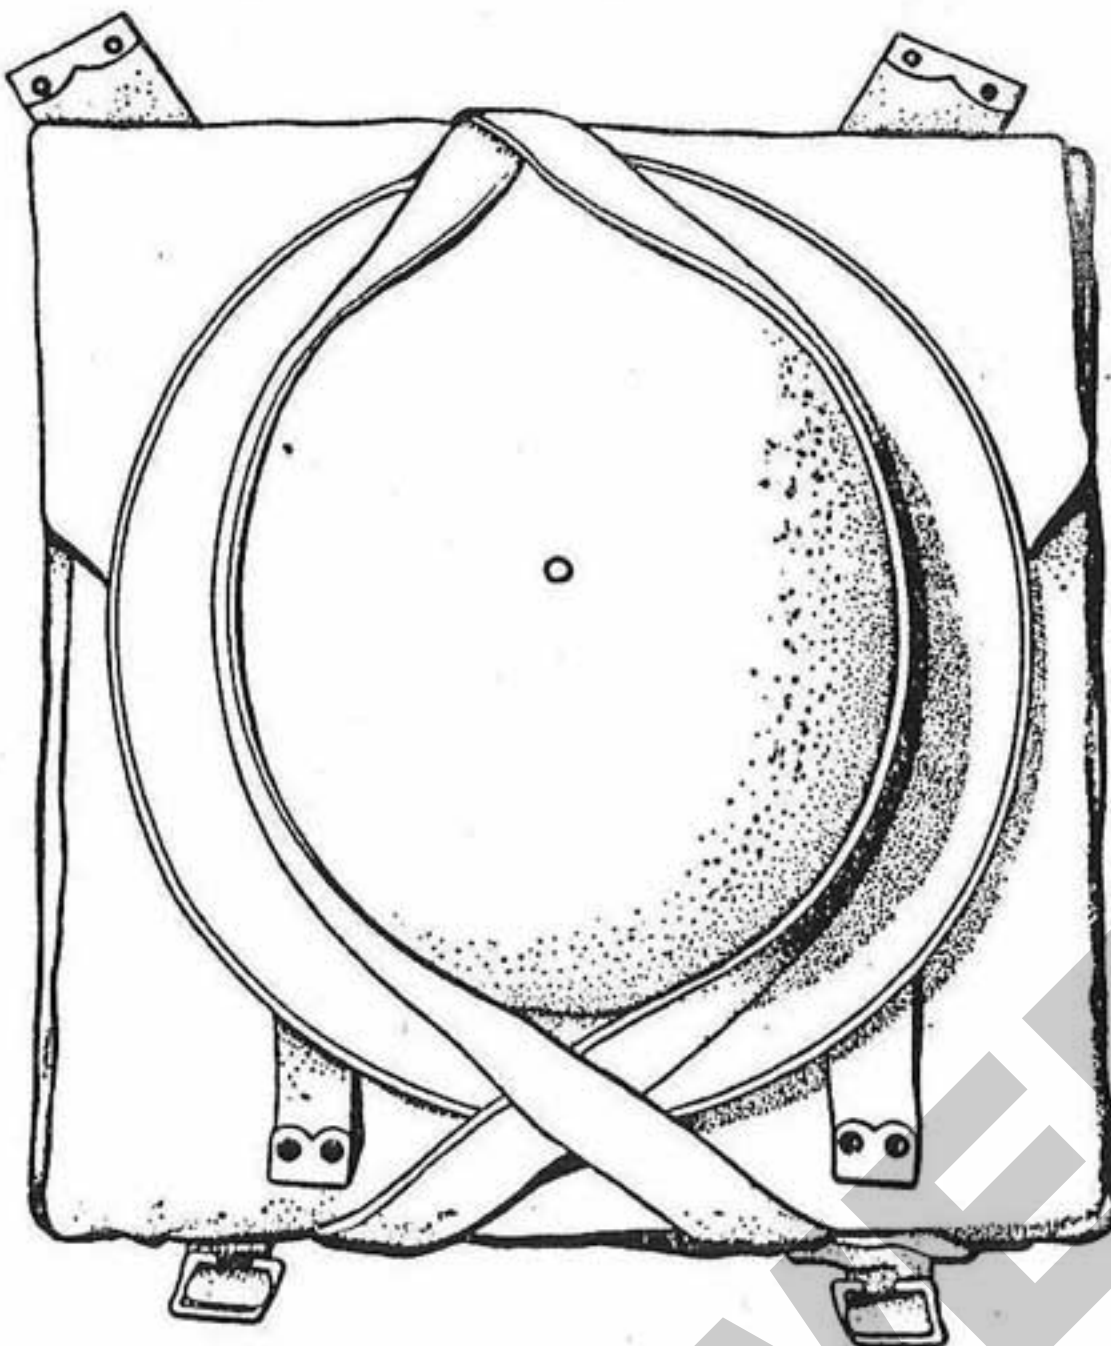

Fig. 14. Pack, with helmet kept in place by supporting straps
18. The steel helmet can be carried on the front of the pack by placing it under the supporting straps. (See Fig. 14.)